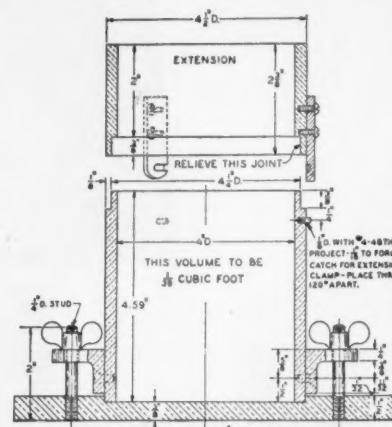

FIG. 1.—Cylindrical Mold, 4.0 in., for Soil Tests.
- (1) **4-in. Mold** having a capacity of 1/20 (0.050) cu. ft., with an internal diameter of 4.0 ± 0.005 in. and a height of 4.584 ± 0.005 in. (see Fig. 1).